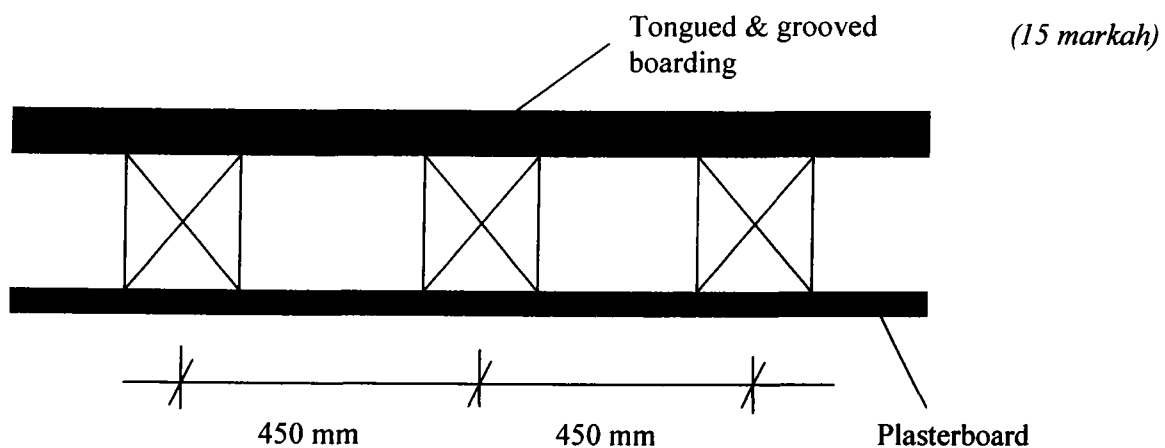

Figure 5 / Rajah 5 : Timber joist floor
- (b) A suspended timber flooring system cross-section is shown in Figure 5. The flooring system is using tongued and grooved boarding with a self-weight of 0.25kN/m^2 . It carries a plasterboard ceiling of 0.2kN/m^2 . The floor has an effective span of 4 m and is subjected to a domestic imposed load of 1.5kN/m^2 . Design the timber floor joist using timber in strength group SG 5.